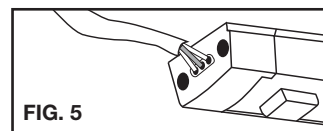

FIG. 5
- To connect to the control box or light bar, simply push the copper wires into the connection on the control box or light bar. (See **FIG. 5**)